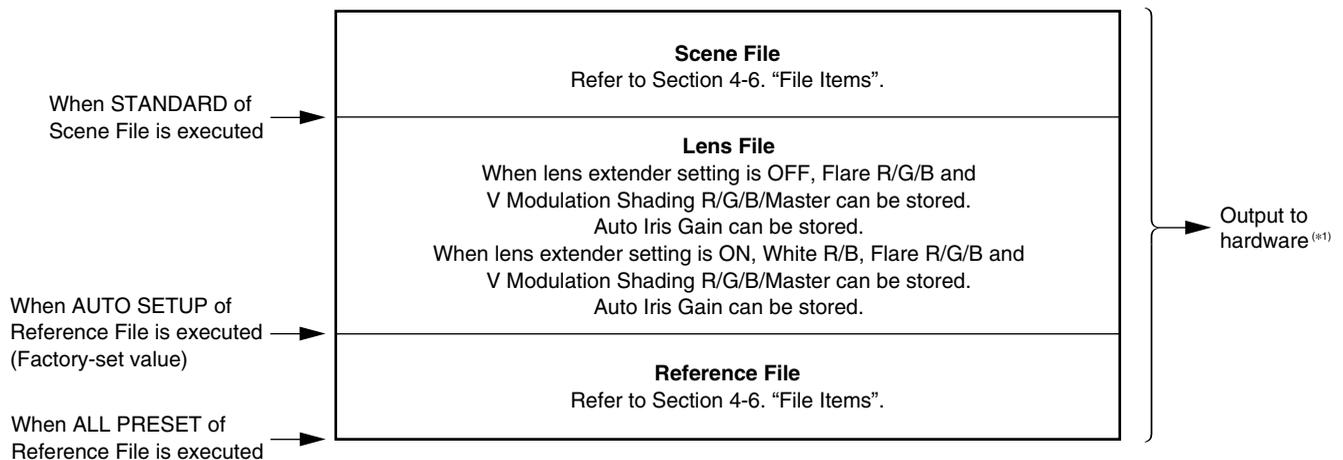
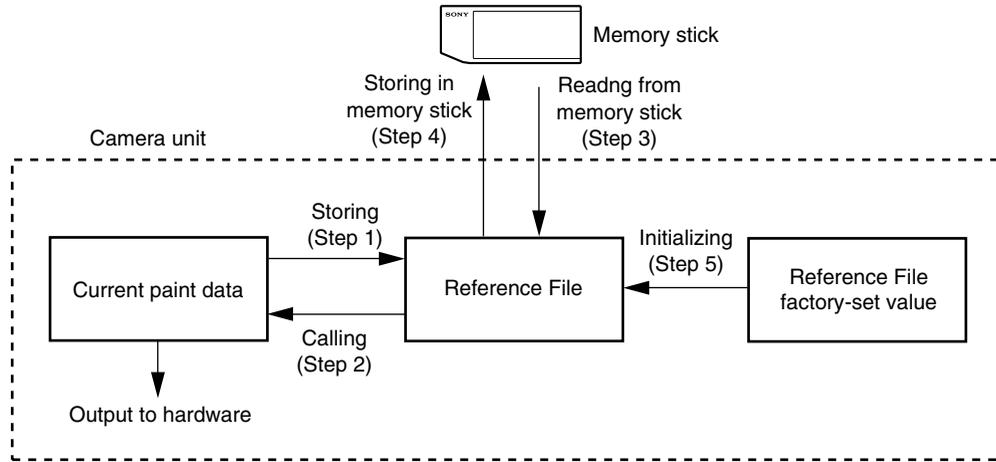

Fig. 4-1. Structure of Paint Related Files
Fig. 4-4. Operating Procedure for Reference Files
### Storing (Refer to step 1 of Fig. 4-4.)
### Calling (Refer to step 2 of Fig. 4-4, Fig. 4-1.)
### Reading the Reference File from the Memory Stick (Refer to step 3 of Fig. 4-4.)
### Storing the Reference File to the Memory Stick (Refer to step 4 of Fig. 4-4.)
**Initializing All File Items (Refer to step 5 of Fig. 4-4.)**